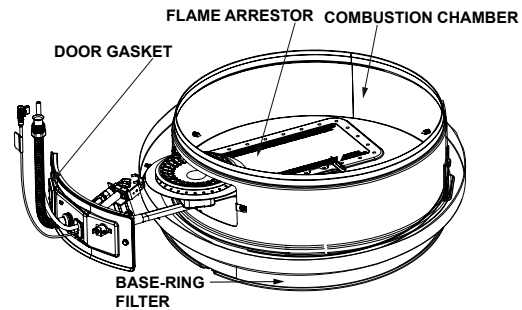

FIGURE 40.
1. At least annually, check the base-ring filter (Figure 40) for any dust or debris that may have accumulated on the filter screen. **NOTE:** If the water heater is located in an area that is subjected to lint and dirt, it may be necessary to check the base-ring filter more frequently.
2. Use a vacuum cleaner/shop vac to remove all loose debris in the combustion chamber (Figure 40). Use compressed air to clear any dust or debris that may have accumulated in the flame-arrestor.